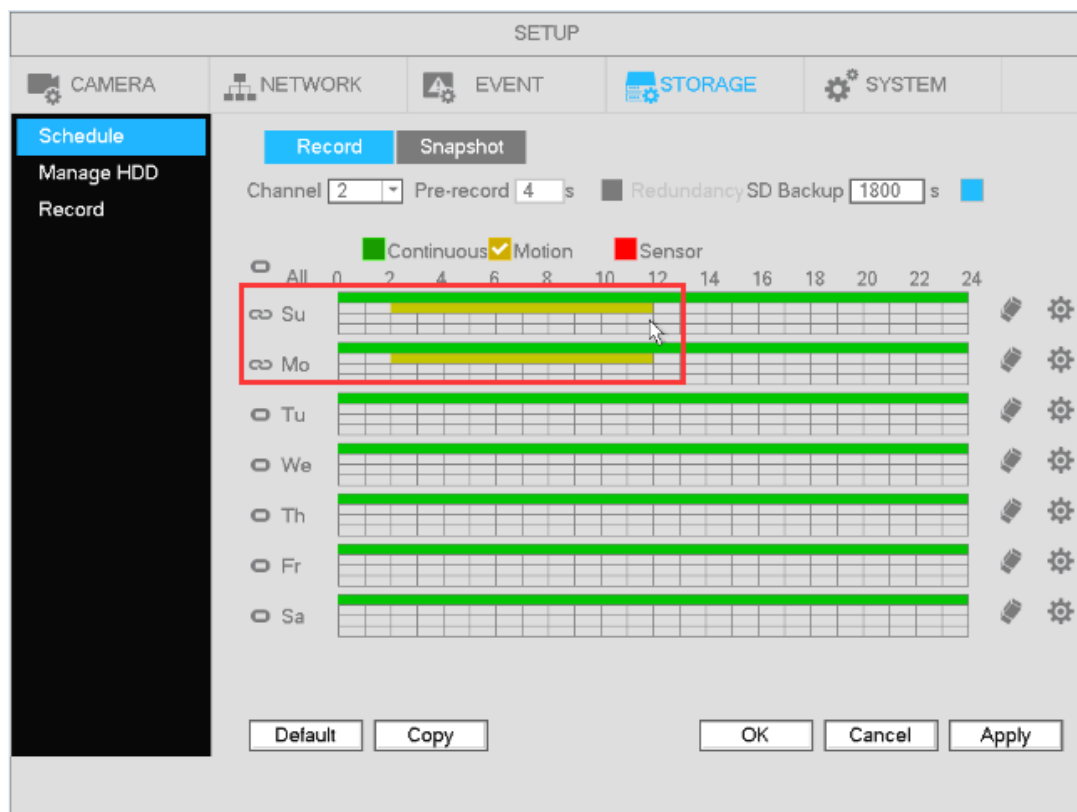

Figure 4-3
To set up schedule recording, go to Main Menu->Setup->Storage->Schedule. See figure 4-3
- Click and drag. See Figure 4-3. Note: for all schedules, a maximum of 6 separate periods can be specified for a day.